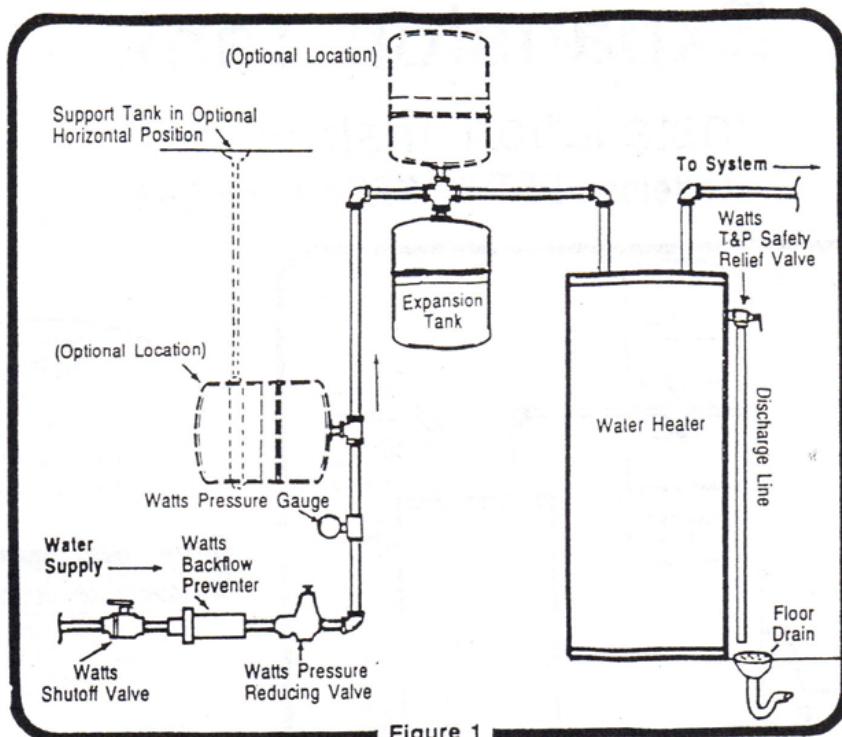

Figure 1
- b. Read the system pressure at the Pressure Gauge (Figure 1).
5. Install the Expansion Tank in the System (Refer to Figure 1).